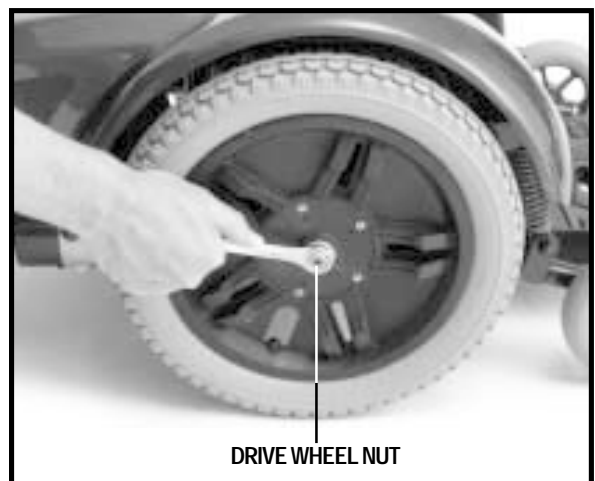

Figure 26. Drive Wheel Nut Removal
4. Remove the drive wheel nut from the centre hub of the wheel. See figure 26.